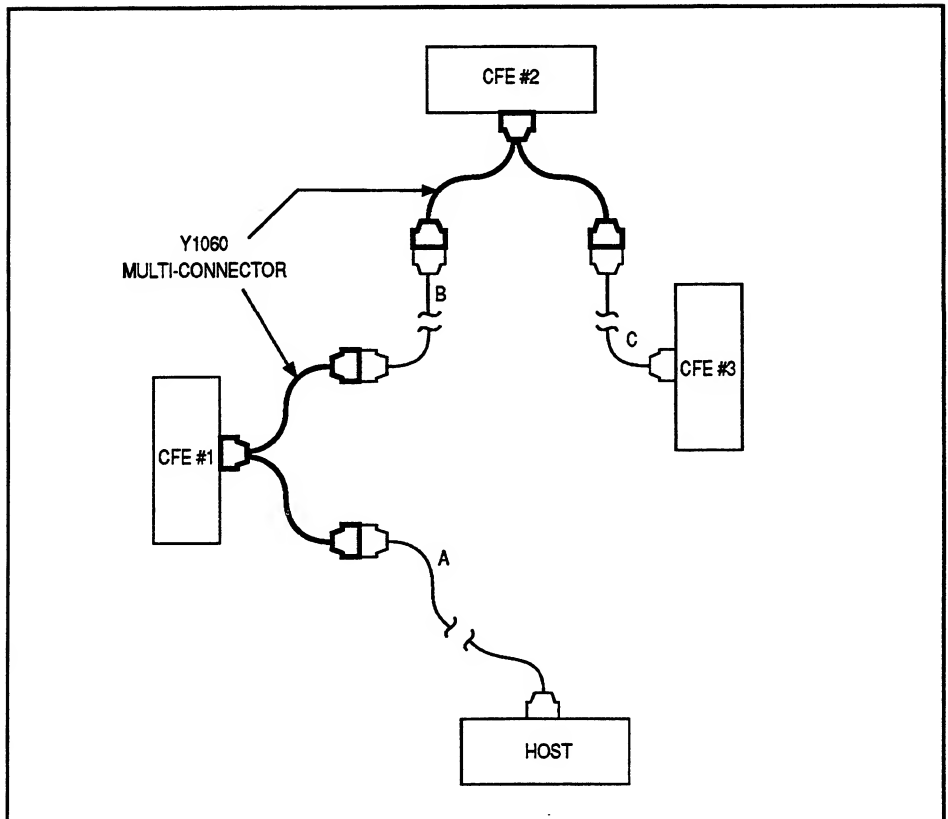

Figure 3-6. RS-422 Multipoint Cabling Configuration
1. Attach the Y1060 Serial Link Multi-Connectors. Refer to Figure 3-6 for a typical RS-422 multipoint configuration. A female (two cable) Y1060 end attaches to the Host Computer connector on each Front End (CFE) except the last.
2. Determine requirements for cables "A", "B", and "C" in Figure 3-6.
- o Cable length: Prepare the required lengths of shielded, twisted-pair cables. Each cable must contain at least three twisted pairs (minimum size 24 AWG). Refer to Figure 3-6 for a glimpse of cable requirements in an RS-422 multipoint configuration.
5. Attach cables "A", "B", and "C" (Figure 3-6).